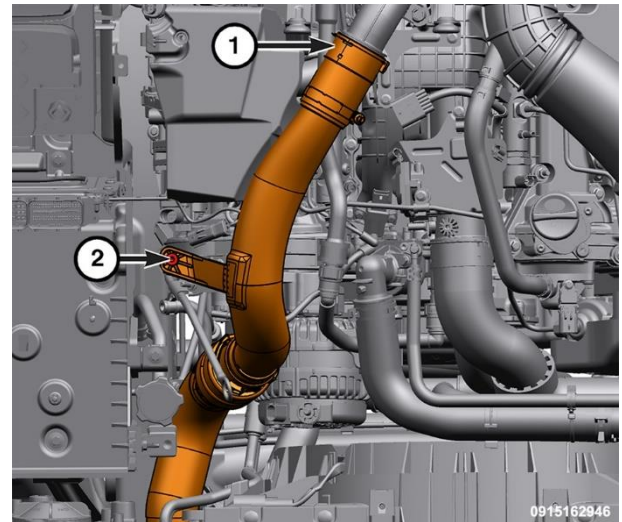

Figure 104 – CAC Hose
21. Remove the Charge Air Cooler (CAC) hose bolt (2) (Figure 104).
22. Release the retaining clip (1) and disconnect the CAC hose from the turbocharger elbow and position aside.